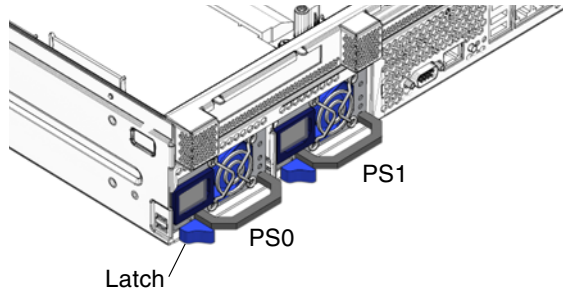

FIGURE 5-5 Locating the Power Supplies
1. Identify which power supply requires replacement (FIGURE 5-5).
4. Grasp the power supply handle and push the power supply latch to the right (FIGURE 5-5).